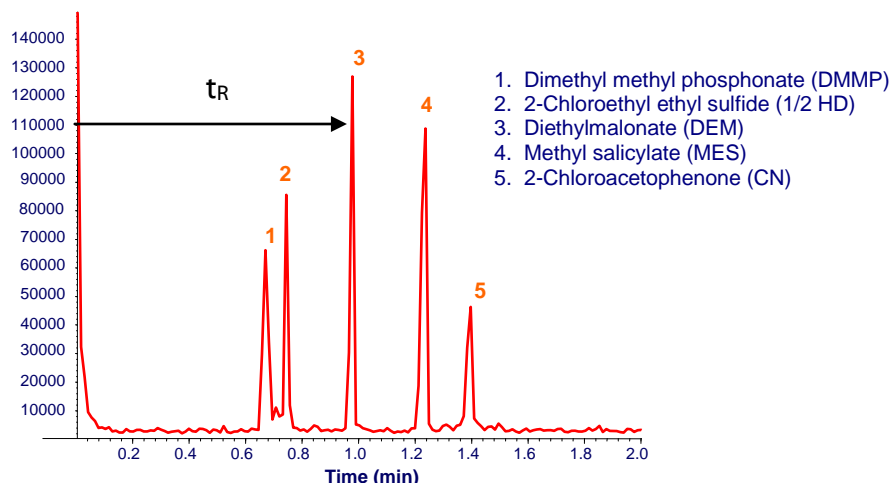

Figure 2-2 Typical chromatogram obtained using the TRIDION GC-TMS showing the retention time of diethylmalonate
2. The partition coefficient of a chemical is related to its retention time,  $t_R$ . The retention time is the time a chemical takes to travel through the column. The typical representation of a GC analysis is a plot of detector response as a function of time, called a chromatogram (see figure 2.2). The time at the center of the near Gaussian peak of a resolved chemical is its retention time, and the area under the peak is related to the amount of chemical extracted and may be corresponded to the amount of chemical in the sample.